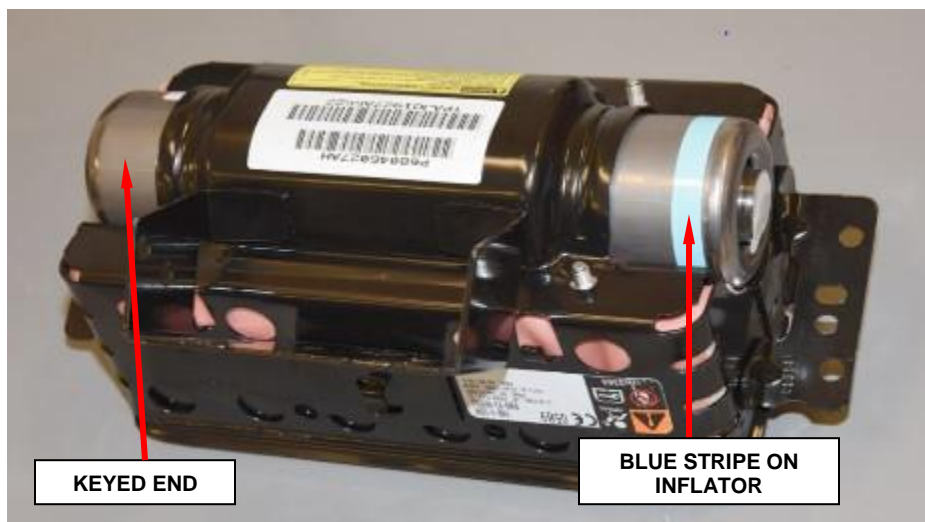

Figure 31 – Insert Inflator (Shown with Cushion Installed)
- j. Slide **new** inflator into housing. The keyed end is inserted first, therefore the blue stripe on the inflator will be located at the open end, as shown (Figure 31).